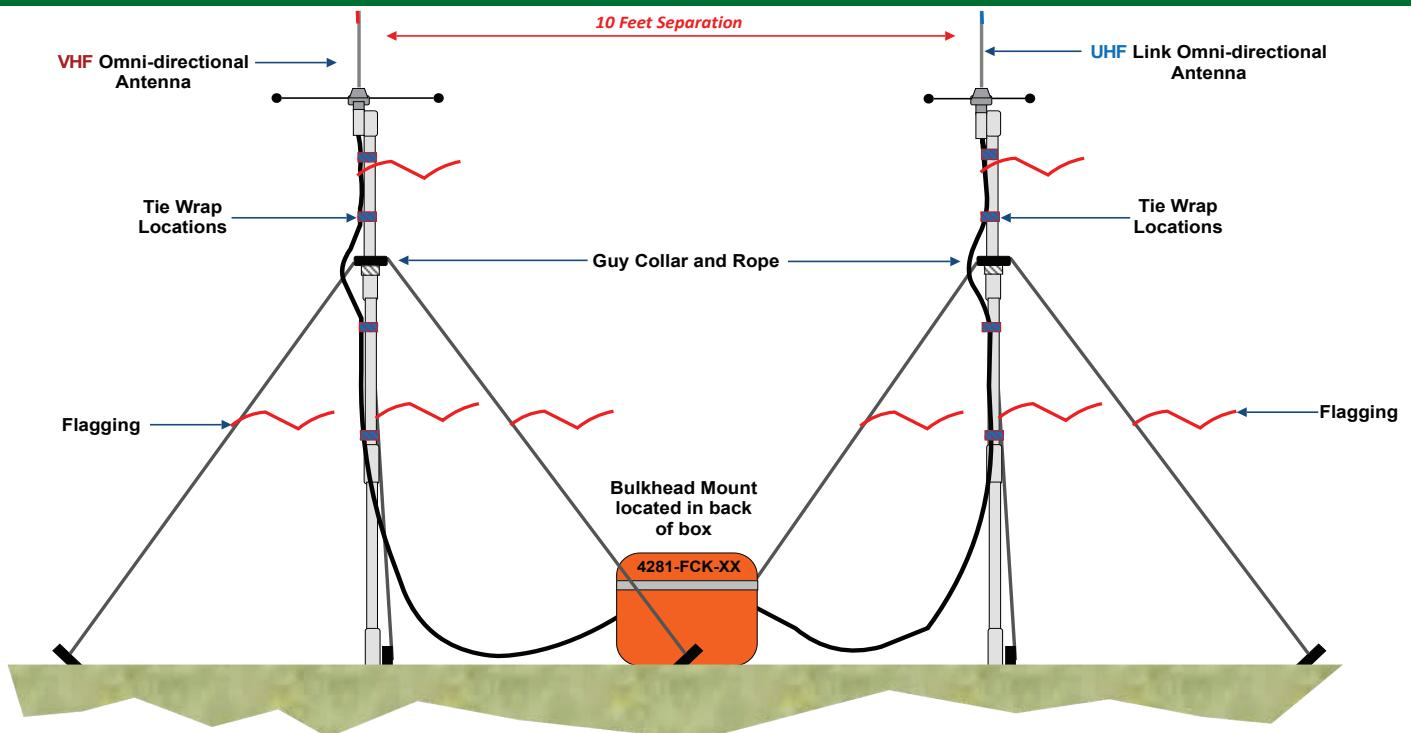

Figure 1:
1. Antenna Installation *(See Figure 1)*